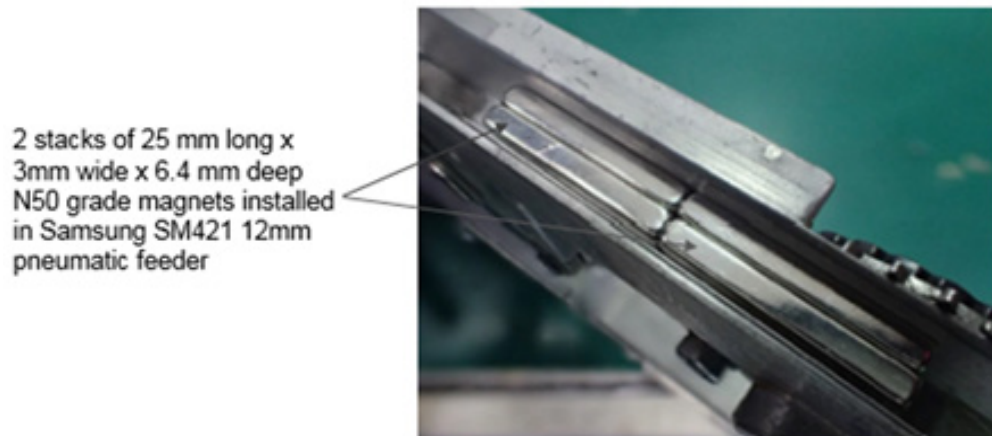

Figure 22. Installing a magnet to better hold the LUXEON IR Domed LEDs during feeder movement. It can be installed anywhere on the feeder path as needed
- c. Install magnet bar or strips on the pneumatic feeder as shown in Figure 22. The metallization pads of the LUXEON IR Domed LEDs is magnetic and will hold the LED in place during tape indexing.